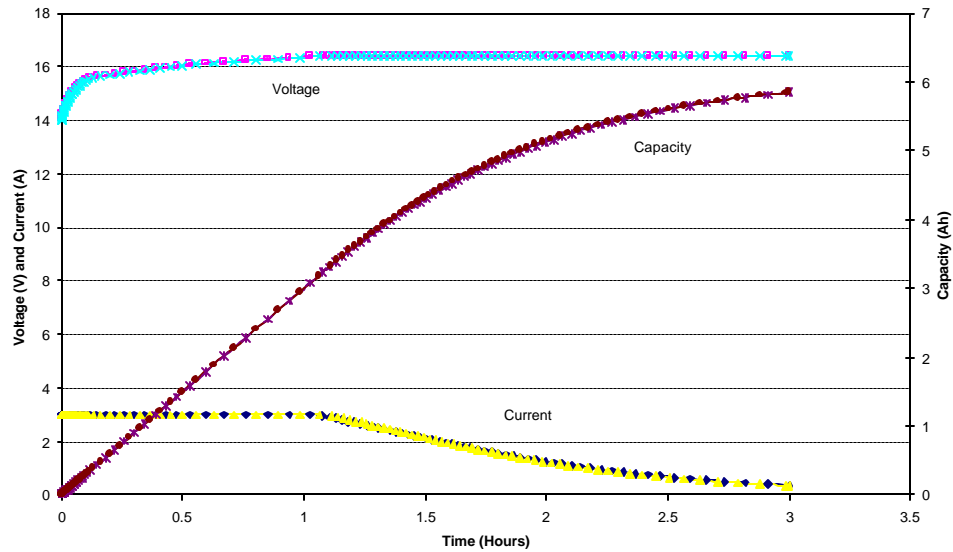

Figure 2
8.1. Recommended Charge: Charge each section at Constant Voltage at 16.4 volts, current limited to 3A for 3 hours or until current reduces below 300mA. See Figure 2 for a typical graph.